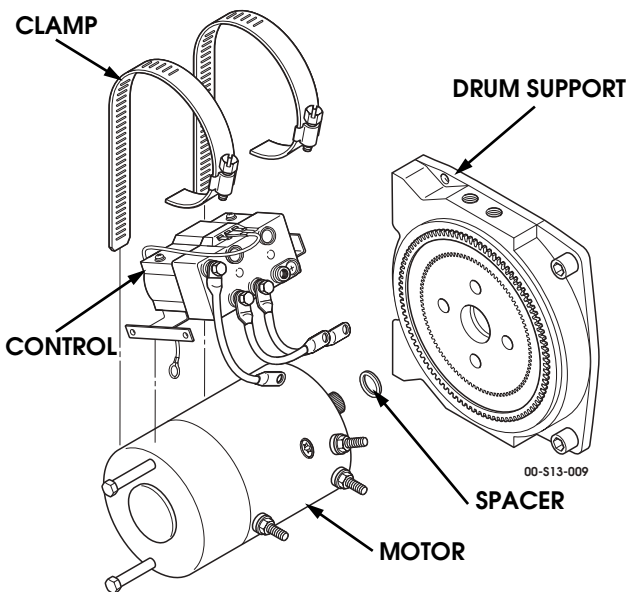

Figure 9-205: Control Unit and Motor
3. Loosen clamps and remove control from motor (Figure 9-205).